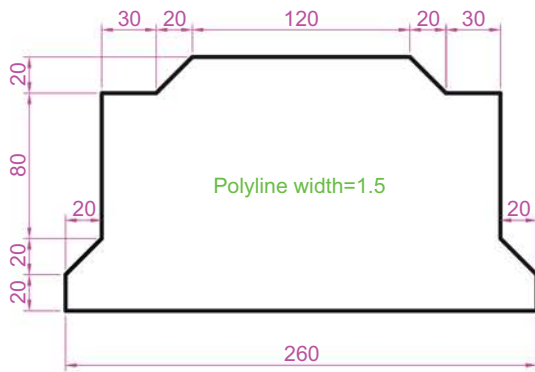

Fig. 3.34 Exercise 7
7. Using the **Polyline** tool, construct the outline given in Fig. 3.34.